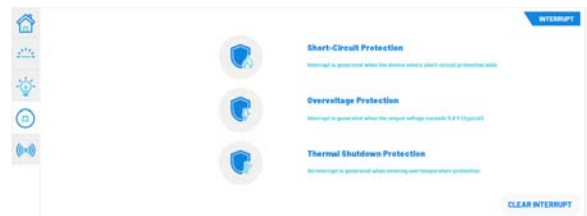

Figure 13. INTERRUPT Tab for Windows
8. In the **Interrupt** main tab for Windows, users can enable device protection as well as clear interrupts when triggered (see Figure 13).